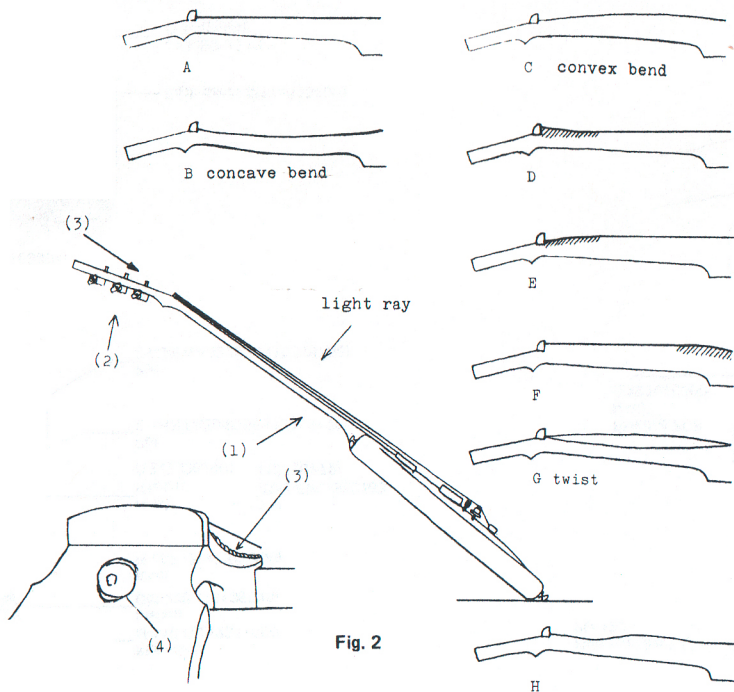

Fig. 2
Checking the fingerboard and neck for cambering, warping, pulling and twisting - Fig. 2 -
1. Hold the neck joint with one hand (1); with the other hand, gently hold the guitar head (2). Position the guitar on the table.
2. View the curve of the fingerboard and neck across the top of the head from both edges alternately (3). B to H in Fig. 2 are examples of would be occurred. Of course any combinations of these examples might be found on the guitar.